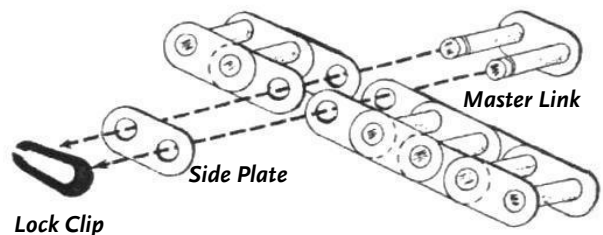

Figure 23
5. Remove the Master Chain Link (**Figure 23**). First, remove the Lock Clip by spreading the Clip with a Screwdriver and at the same time, slide the Lock Clip back off the Master Link pins with the Needle-Nosed Pliers. Next, remove the Side Plate, and then remove the Master Chain Link.
8. Carefully install the Master Chain Link (**Figure 23** on page 37) in the reverse order of step 5, making sure that the Lock Clip is securely in place.